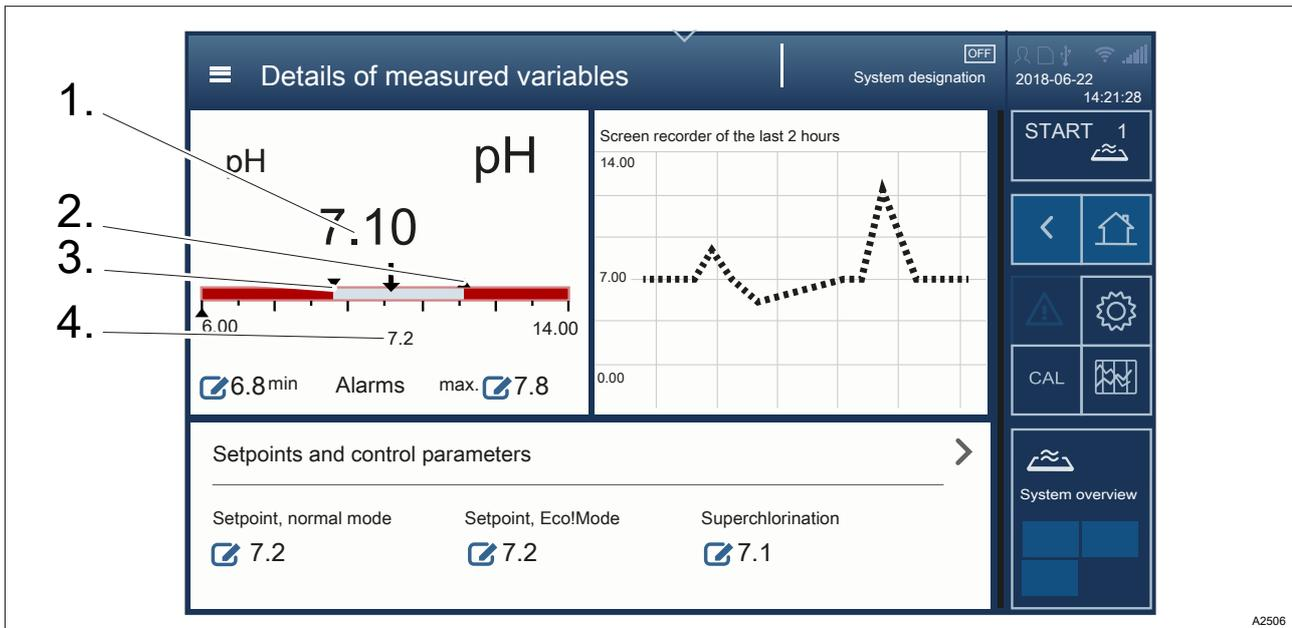

Fig. 50: [Details of measured variables] interface.
3. You are then taken to the *[Details of measured variables]* menu, Fig. 50.